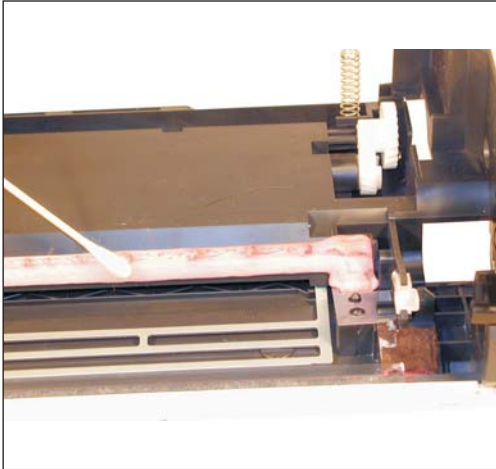

Figure 37
18) If the wiper blade foam seal is intact with no cuts, it can be re-used. Clean the foam with alcohol to remove any toner dust. This should make it sticky again. See Figure 37